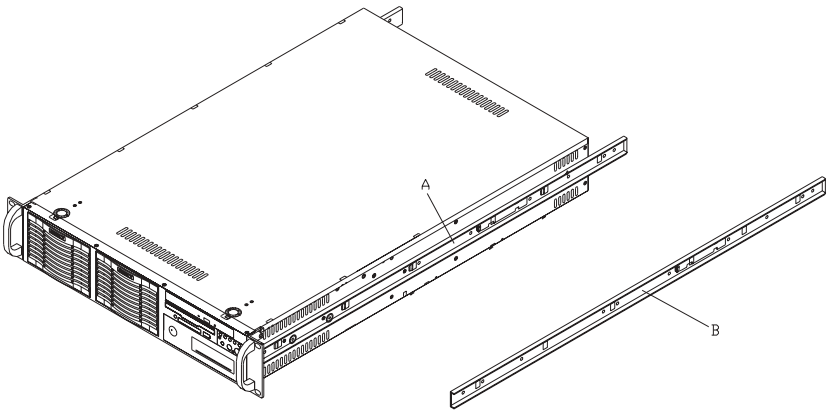

Figure 2-1. Identifying the Sections of the Rack Rails
You should have received two rack rail assemblies with the SuperServer 6023P-i. Each of these assemblies consist of three sections: an inner fixed chassis rail that secures to the 6023P-i (A) and an outer fixed rack rail that secures directly to the rack itself (B). A sliding rail guide sandwiched between the two should remain attached to the fixed rack rail. (See Figure 2-1.) The A and B rails must be detached from each other to install.